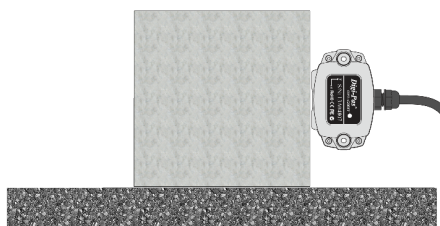

Figure 29. Compact Sensor Module Position of Calibration Step 3
9. For **DWL4200XY** model, repeat step 3 to step 8. Please locate the sensor module in following positions (refer to Figure 29 to Figure 34) respectively.